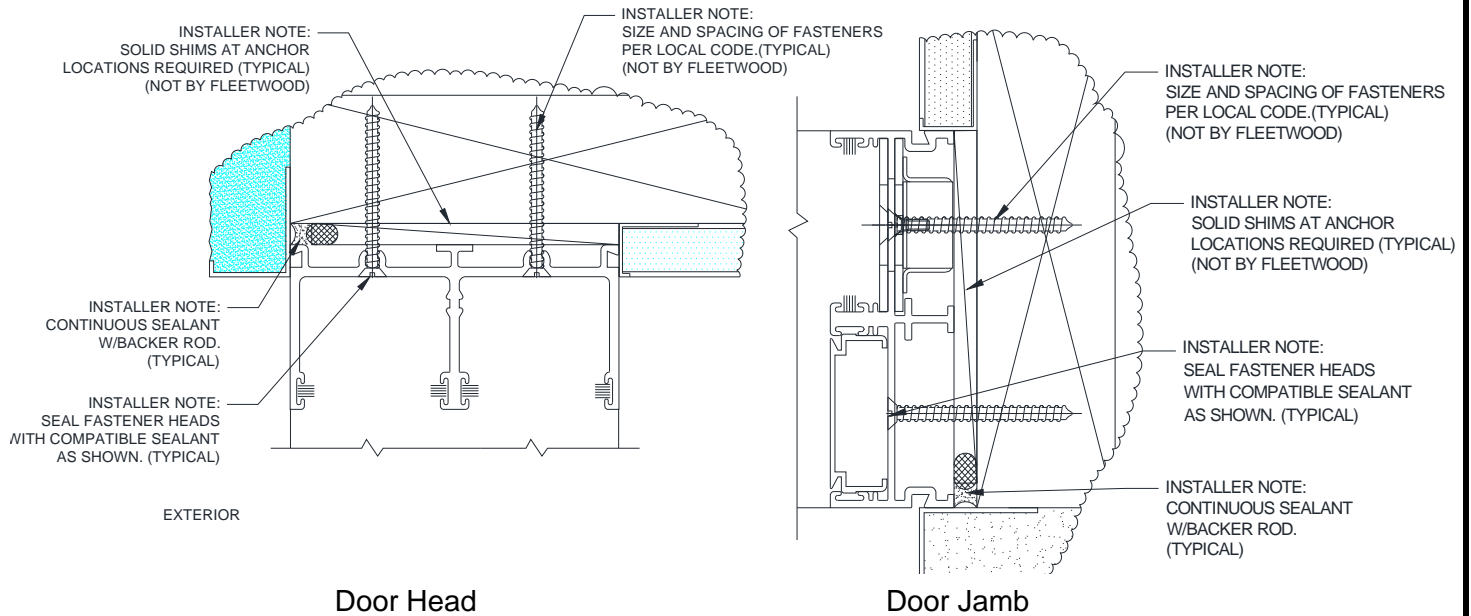

Figure 19:
- Attach frame to structure as shown below (Figure 19). On pocket doors using the 2 Piece Pocket Interlocker and L-type Pocket Interlocker it is important to locate the frame 3/8" from the inside pocket wall to allow for proper interlocking of panel with post interlocker. On installations where the J-Post Pocket interlocker clip is used, a 5/16" distance is required.